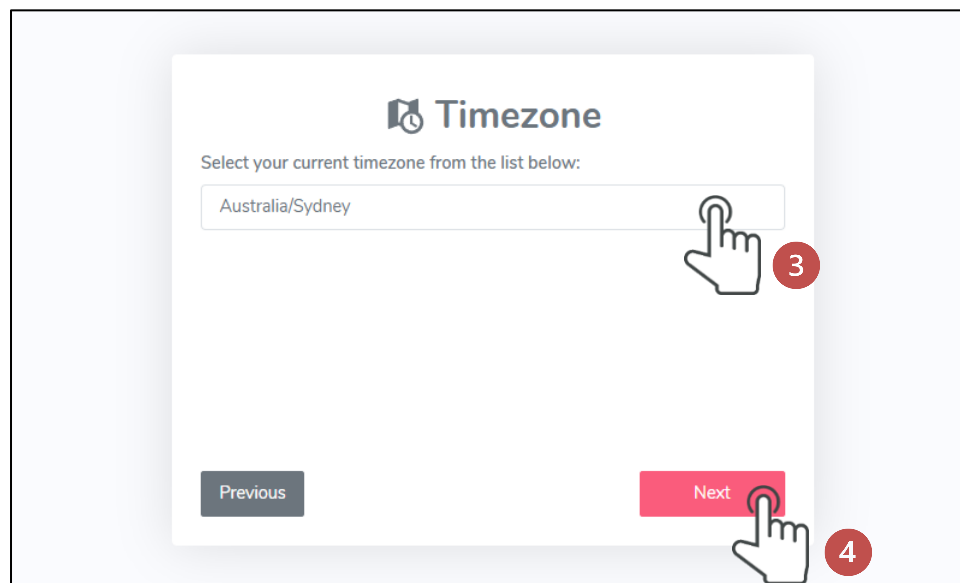

Figure 3
3. Similarly, select a time zone in the next step (Figure 3).